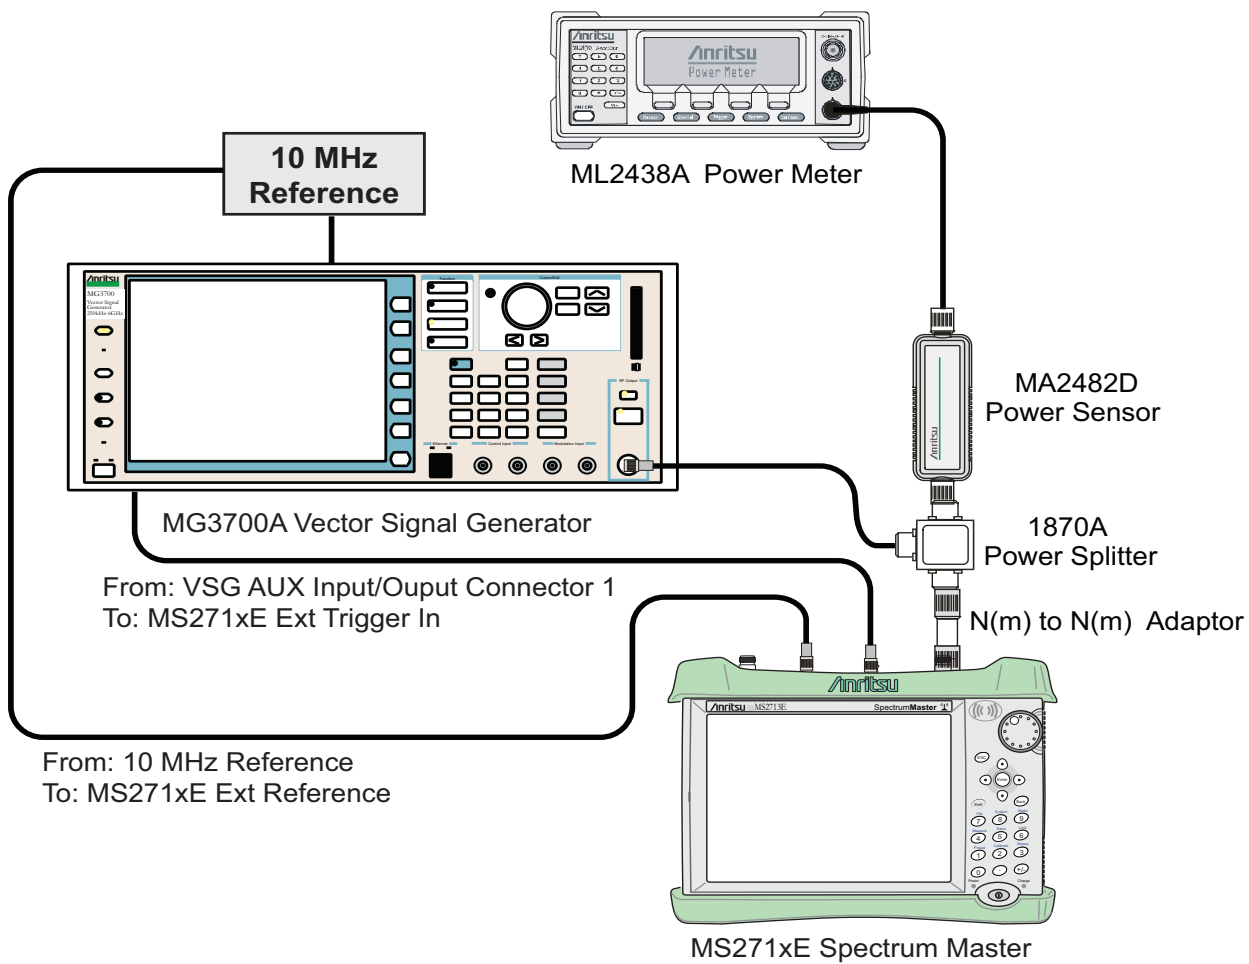

Figure 3-15. EVDO Signal Analyzer Option Verification
2. Connect the equipment as shown in Figure 3-15.